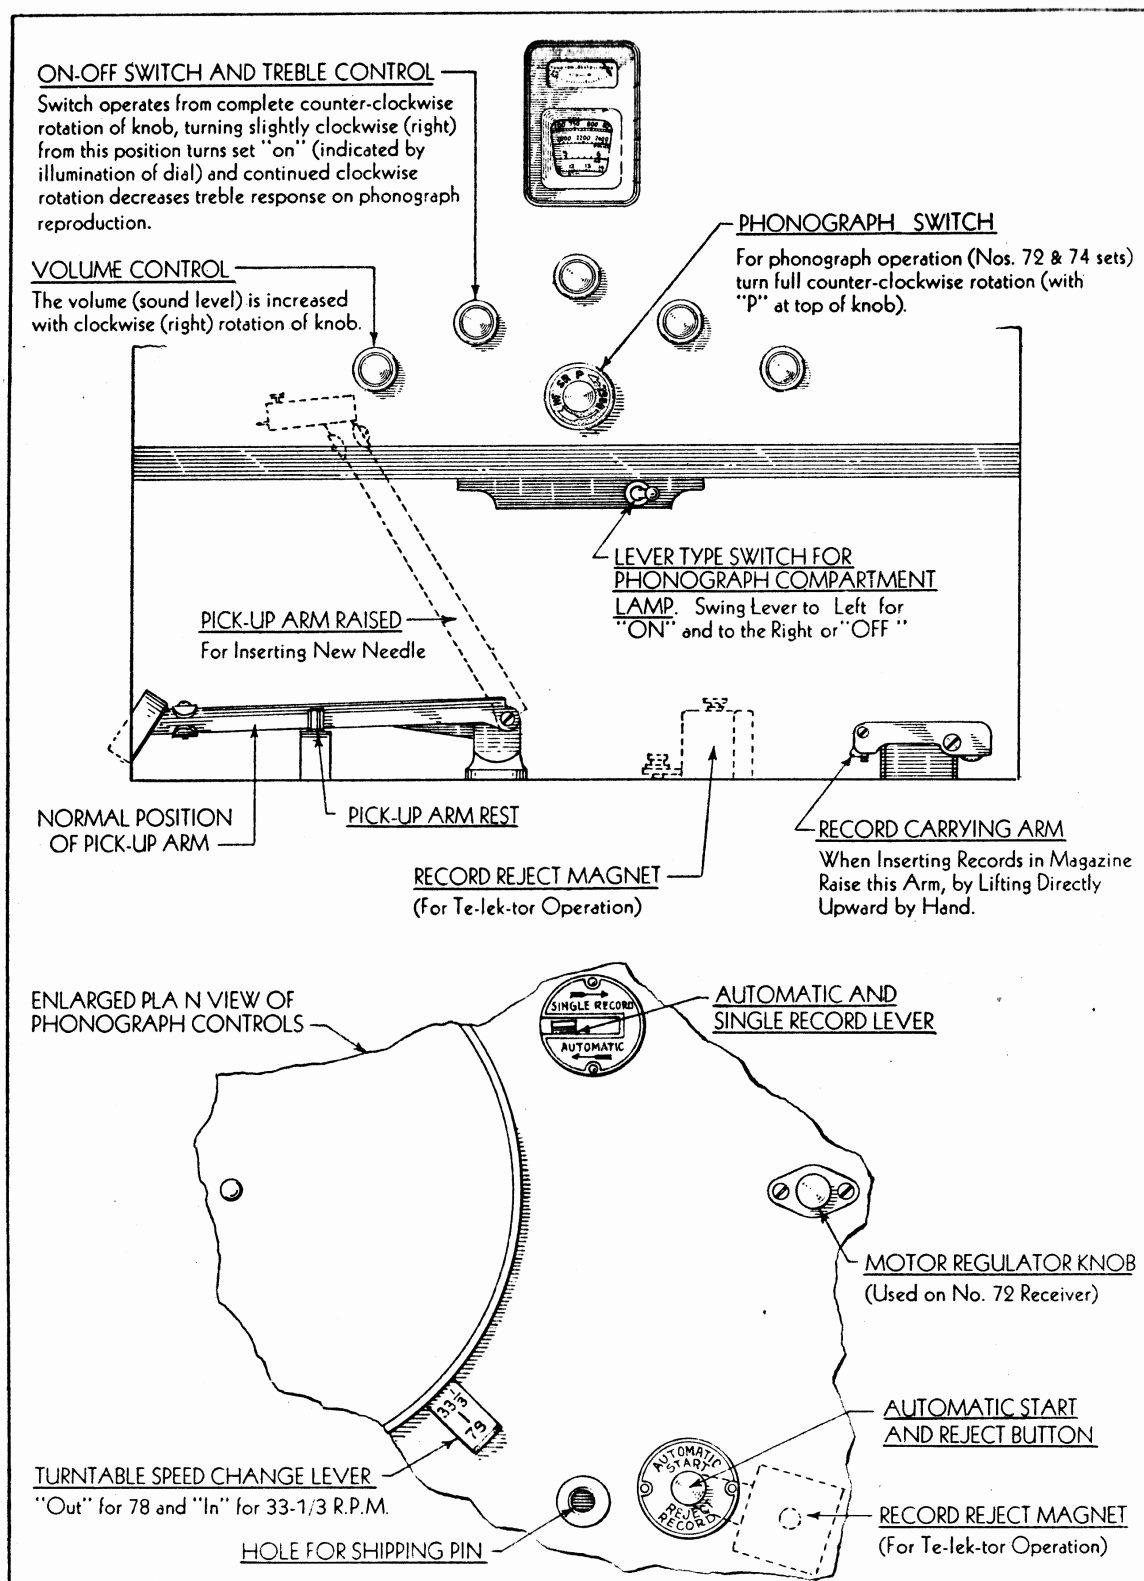

Fig. 10
The Automatic Phonograph Units provided in the Nos. 72 and 74 Receivers are located in the cabinet, directly below the radio chassis, with all of the controls for handling the records, and regulating the phonograph reproduction conveniently arranged in the one compartment, as illustrated in the diagram, Fig. 10. The Radio and the Phonograph Controls are made completely accessible when the two upper doors of the console cabinet are open. This allows the top of the cabinet to be made solid (not hinged as in some designs of radio-phonograph combinations) so that books, and other objects can be left on this top without interfering with the phonograph accessibility and operation.
by the mere pressing of the "Automatic Start" button (See Figs. 10 and 11). This avoids any further handling of the records, the pickup arm, or the shifting mechanism, when the phonograph is set for automatic operation.
When the last record from the magazine has been played, the pickup arm is automatically returned to the "Pickup Arm Rest" (Fig. 10) and the phonograph motor stopped. This is a definite and positive indication that a full magazine of records has been played **and that the needle should be changed.** The proper changing of needles is a vital factor where costly records are concerned, as worn needles quickly destroy the delicate tone recordings in the grooves of the records, and at the same time make the reproduction noisy. (See Section 6 of this chapter on "Phonograph Needles".)
- (k)—Phonograph Motor Starting and Stopping Switch Contacts, controlled by “Phonograph Switch” Knob on the Radio Chassis, to allow going from radio to phonograph and vice versa, by operating one control knob. (See Fig. 10.)
- (l)—Volume Control and Treble Control of Phonograph Reproduction by the Volume Control Knob and the Treble Control Knob, respectively, used for radio reproduction. (See Fig. 10).
First—Pull out and turn the Large Knob (Fidelity Control) of the radio receiver in a counter-clockwise direction as far as it will go and immediately push in, the letter "P" then being at the top of the knob, as shown in Fig. 10. This connects the pickup of the Phonograph to the audio system of the radio chassis and to the speaker system (See Fig. 21). In addition, it connects the power supply circuit to the phonograph motor circuit.
Second—Turn the On-Off Switch Knob of the radio receiver (See Fig. 10) in a clockwise direction, just far enough to cause the dial light to illuminate the radio dial and no further. This will connect operating current to the radio chassis for the tubes and also make operating current available for driving the phonograph mechanism. Allow a few seconds for the tubes to heat up before attempting to operate the phonograph.
Third—After starting a record playing as described in detail under headings "Playing Records Automatically" and "Playing Records Singly" adjust volume of reproduction of the loud speaker, by turning the regular radio Volume Control (left hand knob on radio panel, Fig. 10) in a clockwise direction for increasing volume and in a reverse direction for decreasing volume.
Fourth—If it is desired to reduce the treble response, or to cut down the amount of needle scratch when playing old worn records, turn the combined "On-Off and Treble Control" on the radio panel (Fig. 10) in a clockwise direction as far as desired. Correct reproduction of new phonograph records of the lateral-cut type (which do not have recorded on them, the higher audio frequencies included in these Nos. 72 and 74 Loud Speaker Systems), is obtained when this knob is set at about $\frac{1}{4}$ of a turn from the extreme counter-clockwise position.
Second—Switch "on" the Phonograph Compartment Lamp by moving the switch lever to the left, See Fig. 10. This lamp lights only when the "On-Off" switch is "On".
Fourth—Lift up the Record Carrying Arm (Figs. 10 and 11) to the top of slide or "elevator" bracket where it will be retained by a spring catch, thereby leaving the record magazine clear.